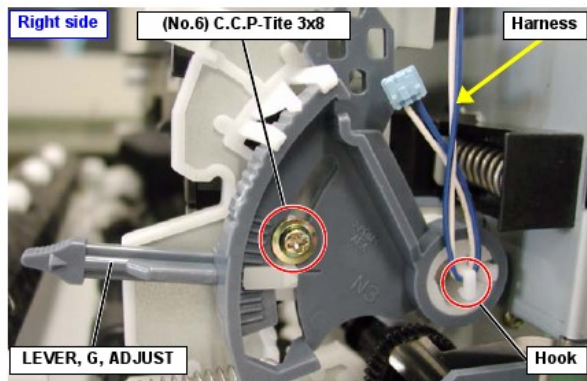

Figure 4-49. LEVER, G. ADJUST Removal 1
2. Free the PG SPENSOR harness from the hook of the LEVER, G, ADJUST. (Refer to Figure 4-49.)
3. Remove the screw (No.6) C.C.P-Tite 3x8 (0.28-0.48Nm) securing the LEVER, G, ADJUST to the BUSHING RIGHT. (Refer to Figure 4-49.)